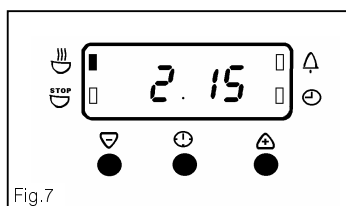

Fig.7
- iii) To set the length of cooking time, press the Selector Control button until the 'Cook Time' indicator neon is illuminated. Press the increase control (+) until the required length of cooking time is displayed, e.g. 2 hrs 15 mins as Fig. 7. If necessary depress the decrease control (-) until the correct time interval is achieved.